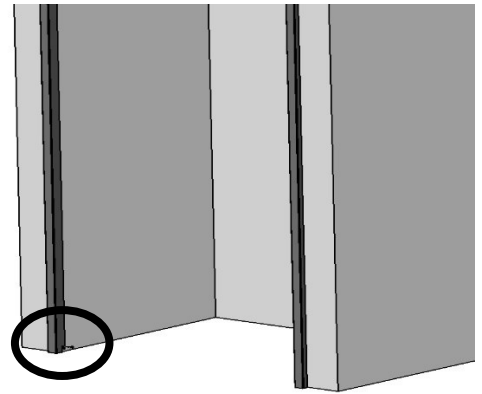
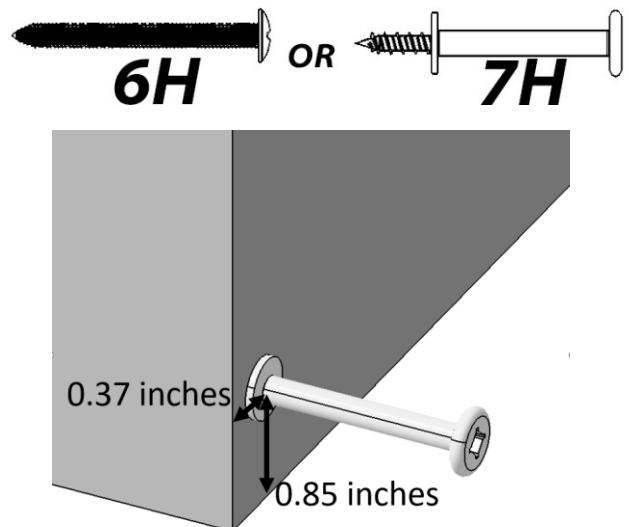

Figure 16
Figure 17
11. Depending on which long screw you received (6H or 7H), screw a long screw in the lower left area (Figure 16) of the front cabinet space, approximately in the location described in Figure 17.